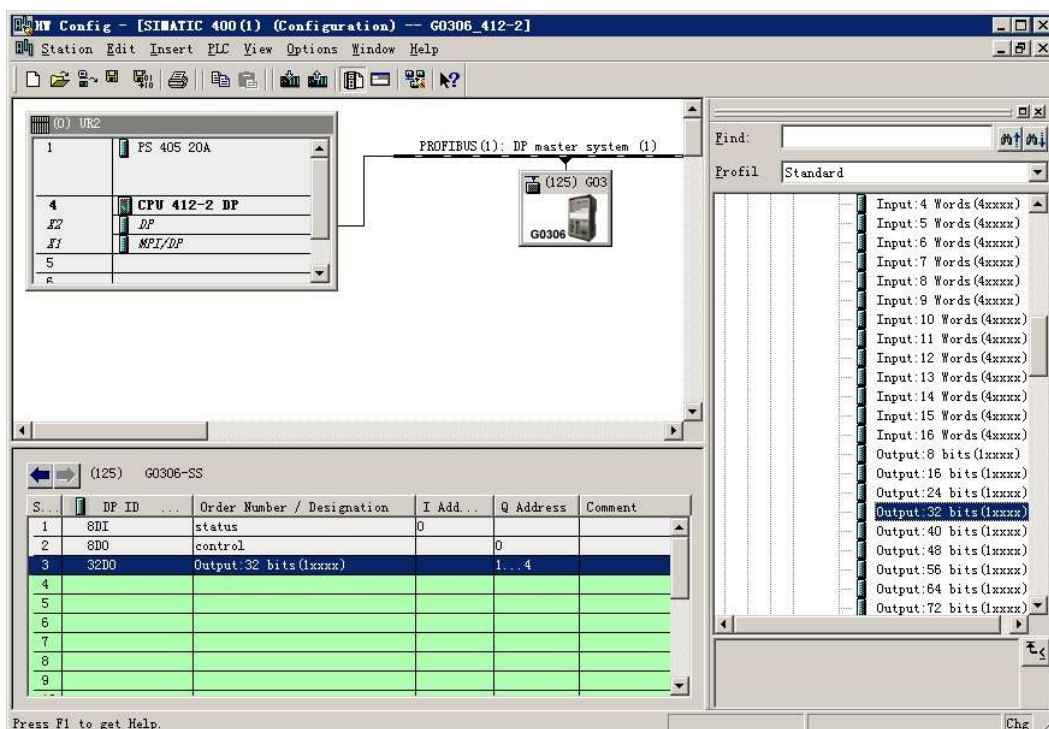

Figure 44 Add"Output:32 bits(1xxxx)"module
a) Add "Output:32 bits(1xxxx)" module, as shown in Figure 44: